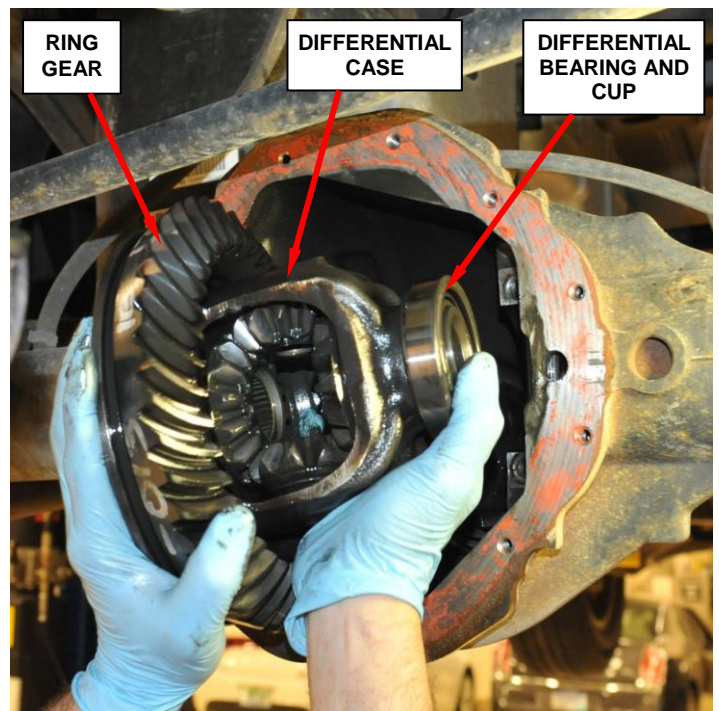

Figure 9 – Differential Case
12. Remove and save the differential case from the axle housing (Figure 9).